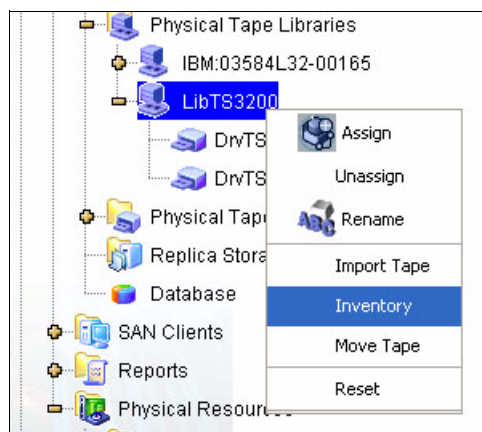

Figure 6-75 Discover new devices: Inventory library
13. The next step is to obtain the inventory of tape cartridges in the LibTS3200 library. Right-click **LibTS3200** then select **Inventory**, as shown in Figure 6-75.